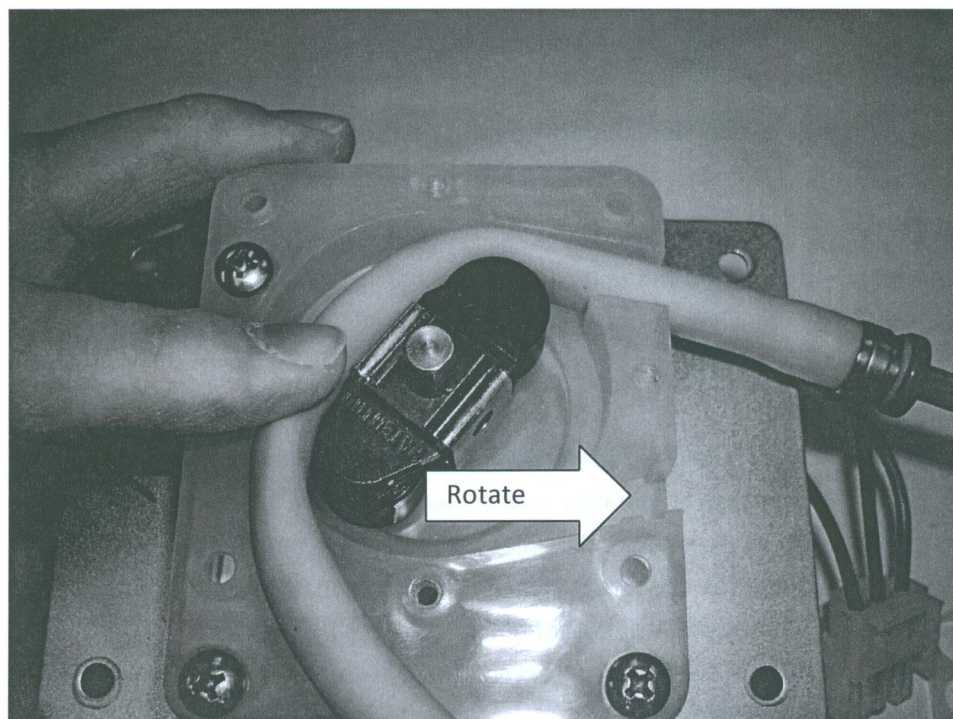

Fig 29
- Position the pinch rollers as in figure 29